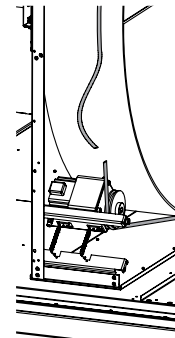

Fig. 14-2
- For changing the round belt, please proceed as follows: Place the new round belt on the drum, fix it in place with adhesive tape and turn the drum by hand to thread the belt through. (see Fig. 14-2)